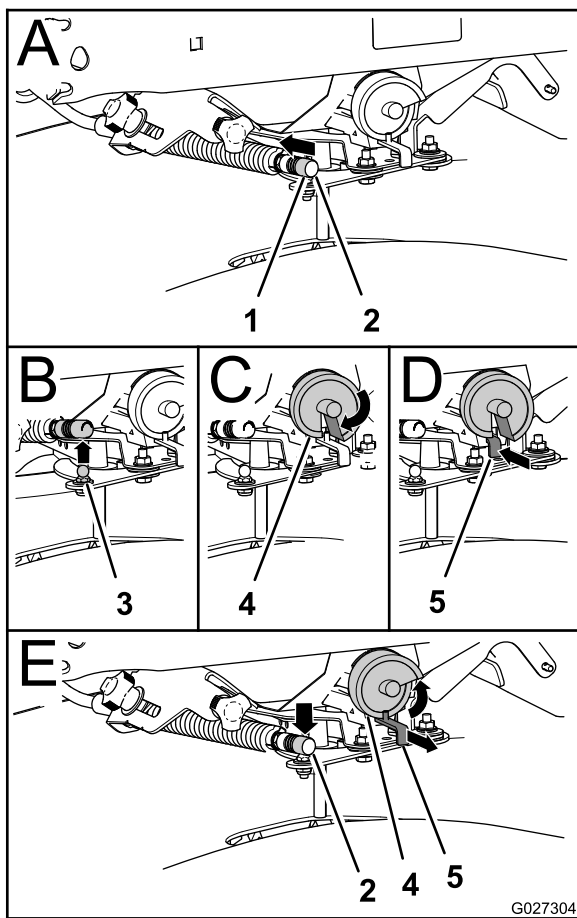

Figure 35
1. Push the locking sleeve for the gate cable rearward and lift the cable up from the ball stud of the rate-gate linkage (Figure 35).
1. Pull the linkage out until it clears the drop-rate cam (Figure 35).
3. Attaching the cable to the ball stud at the gate lever(Figure 35).
2. Pull the cable off the ball stud (Figure 35).
3. Rotate the drop-rate cam past position-9 so that the slot in the cam aligns with the linkage (Figure 35).
4. Fully push the rate-gate linkage rearward (Figure 35).